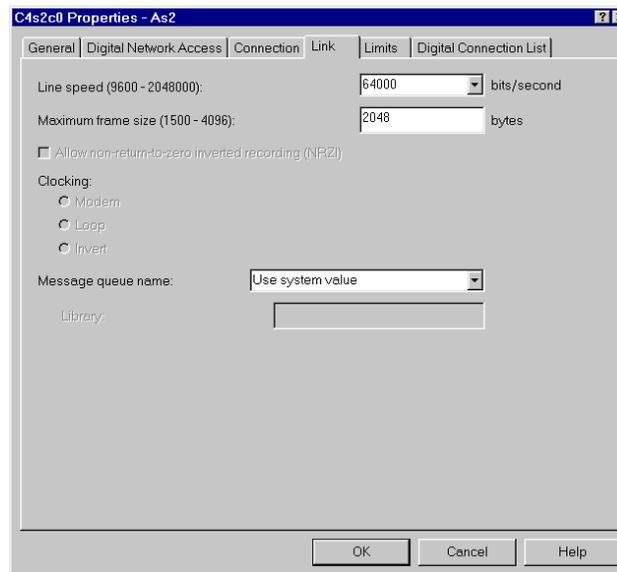

Figure 107. Verifying the line speed and frame size
6. Click the **Link** tab (Figure 107).